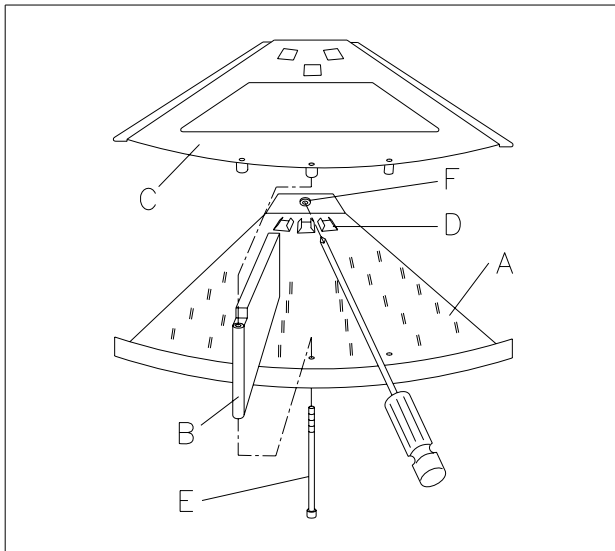

FIG. 10
- 2) Unhook the sector to be modified from the column by rotating the part Ref. F FIG. 10 by one quarter turn.
- 3) Insert the divider blade Ref. B FIG. 10 into the seat Ref. D FIG. 10 of the sector Ref. A.
- 4) Hook the upper sector Ref. C FIG. 10 onto the blade.
- 5) Add the rod Ref. E FIG. 10 and screw to the upper sector.